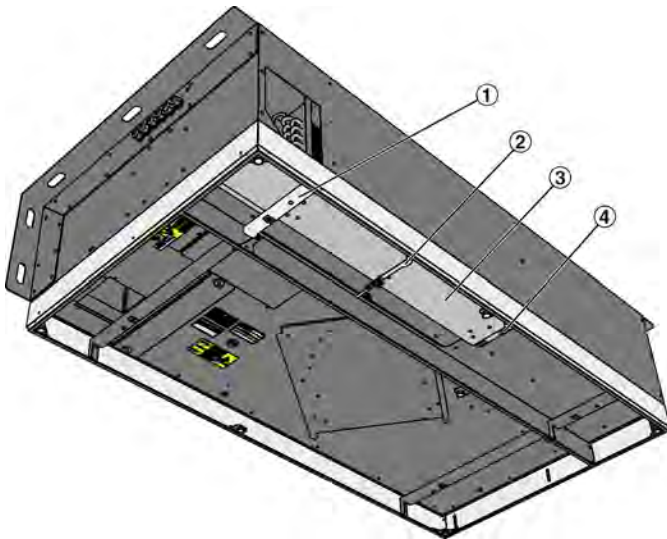

Fig. 77: Removing the condensate drip tray
3. ▶ Remove the cross bar (Fig. 77 /1).
4. ▶ Remove the supply air temperature sensor (Fig. 77 /2) with the holder.
5. ▶ Loosen the turn fasteners (Fig. 77 /4) to remove the condensate drip tray (Fig. 77 /3).
10. ▶ Clean the condensate drip tray (Fig. 77 /3) with a commercially available cleaner or disinfectant.